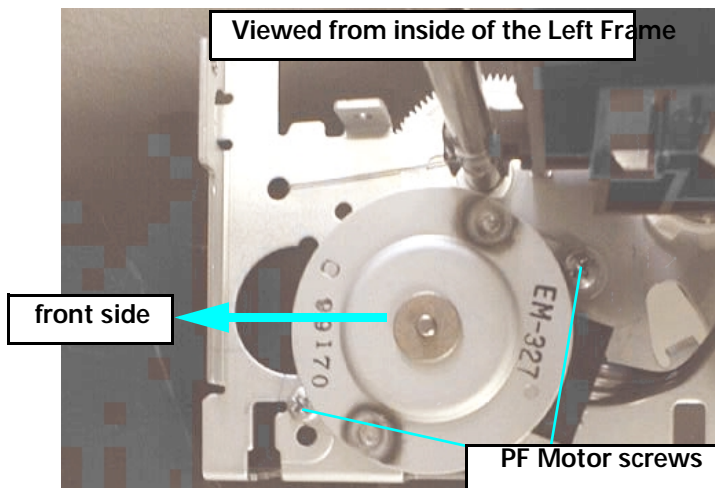

Figure 4-19. 2 Screws Securing the PF Motor
8. Remove 2 screws securing the PF motor from the inside of the Left Frame and shift the PF Motor Assembly to the front side of the printer to remove it. (Refer to Figure 4-19.)